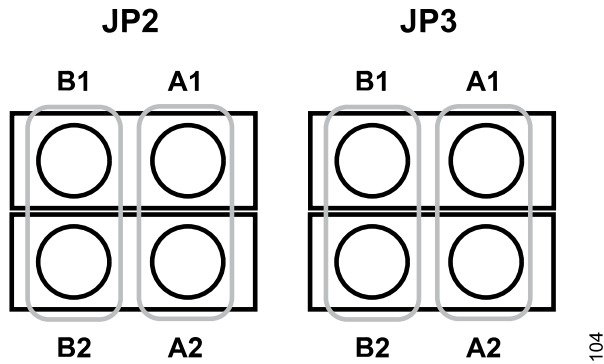
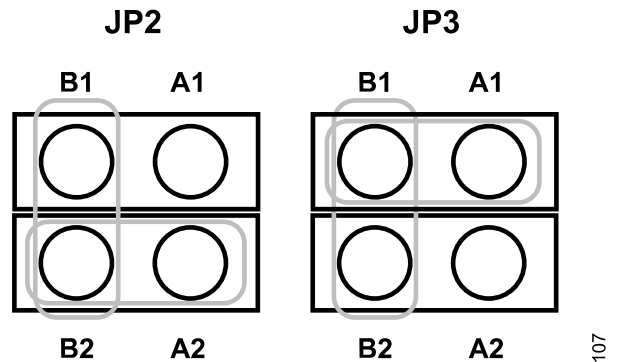

Figure 4. Gain = 0.454
Figure 7. Gain = 1.9
1. Ensure that all configuration links are in the appropriate positions, as detailed from Figure 4 to Figure 7.